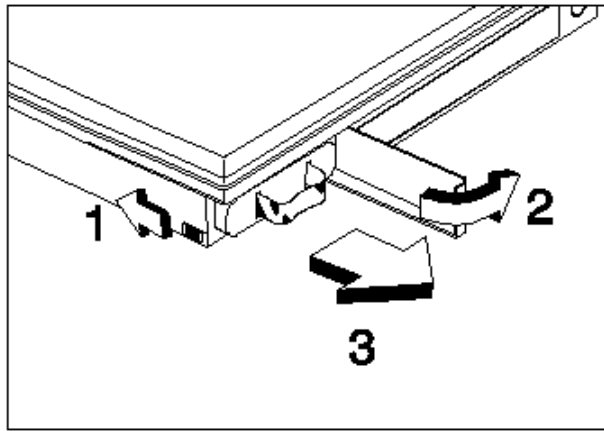

Figure 6-2 Battery Removal/Replacement
2. Unlatch the battery compartment door (right front corner of the unit) as shown in Figure 6-2.
3. Slide the battery compartment door out slightly and then swing the door outwards as shown in Figure 6-2.